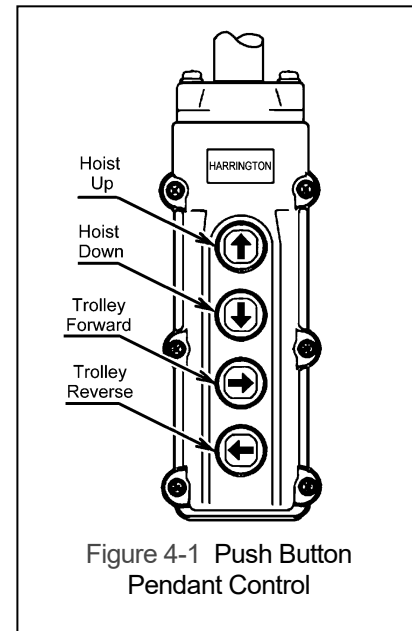

Figure 4-1 Push Button Pendant Control
4.3.1 Hoist and trolley with 4 button Pendant Control - When using the pendant control depress the Up button to raise the hoist's hook or the Down button to lower the hoist's hook as shown in Figure 4-1. Depress the Forward and Reverse buttons to move the trolley horizontally. To stop motion release the buttons.